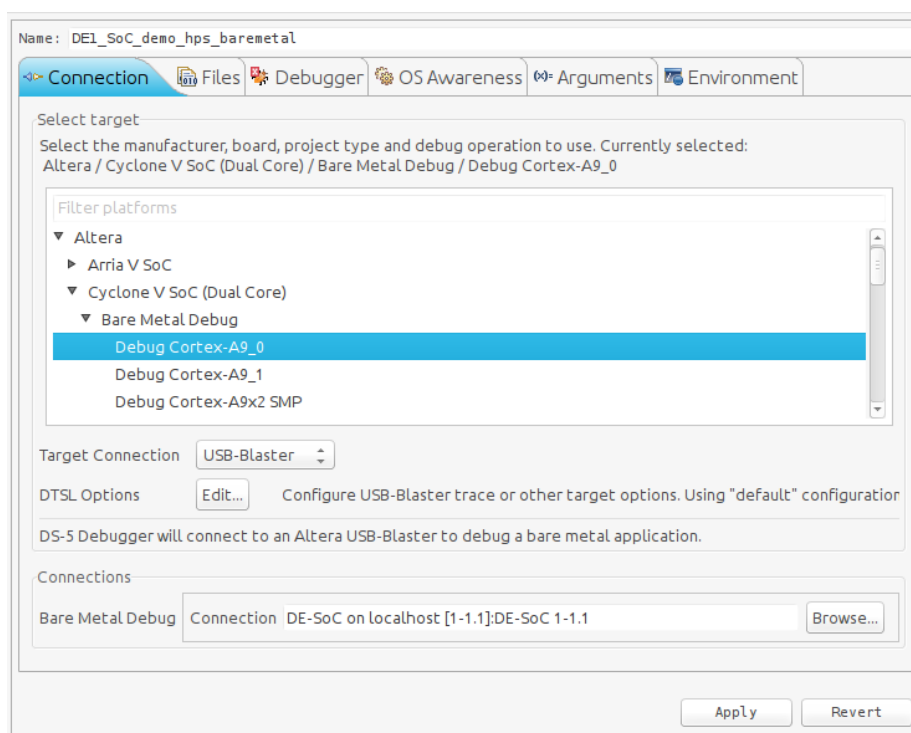

Figure 8-29. Debug Configuraton “Connection” Tab
- d. You should have something similar to Figure 8-29.